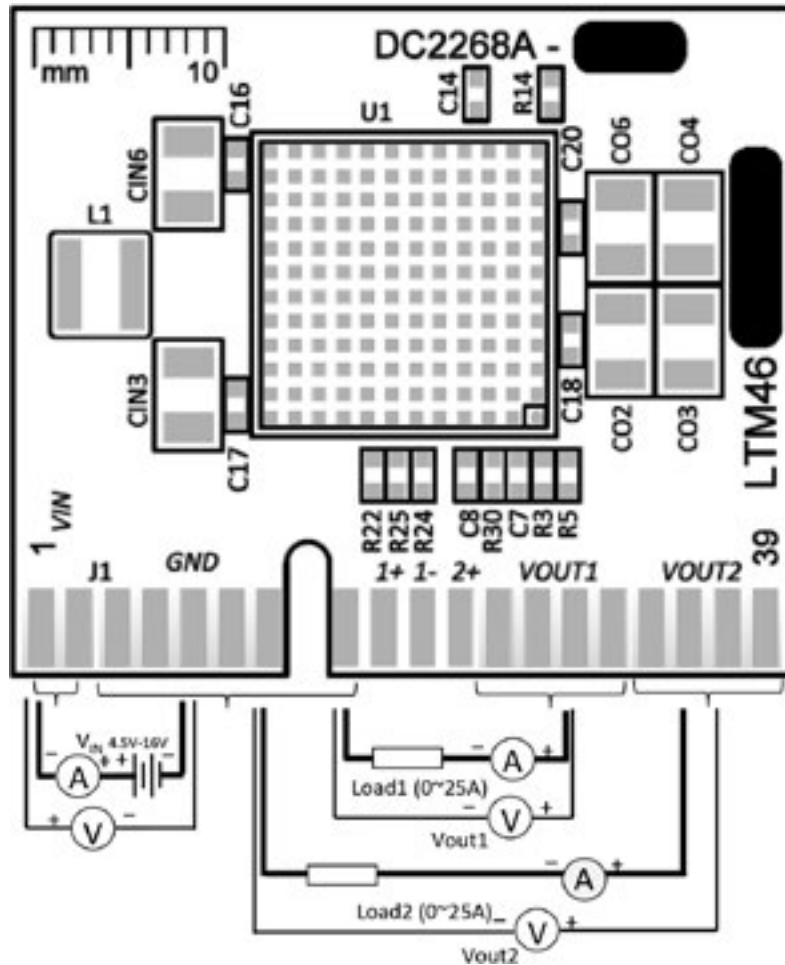

Figure 2. Test Setup of DC2268A-I
DC2268A-I is easy to set up to evaluate the performance of the LTM4650A-1. It can be easily inserted to an edge connector (SAMTEC MEC2-20-01-L-DV--TR) for testing and debugging. Please refer to Figure 2 for proper measurement setup and follow the procedure below:
2. With power off, connect the input power supply, load and meters as shown in Figure 2. Preset the load to 0A and V_{IN} supply to 12V.